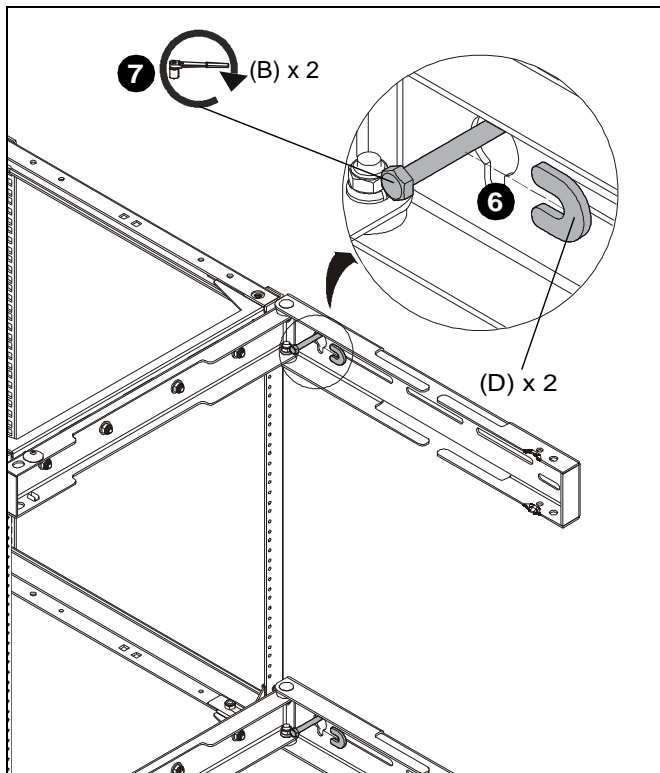

Figure 4
6. Slide two "U" washers (D) onto lag bolts (B). (See Figure 4)
7. Tighten two lag bolts (B) until "U" washers (D) are pulled firmly against the brace. (See Figure 4)